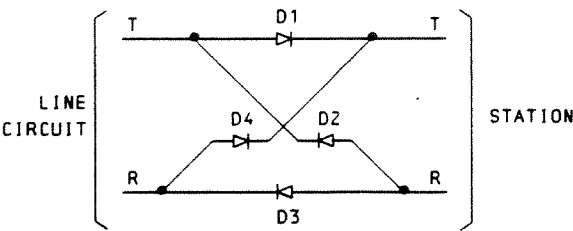

Fig. 2—Schematic of Polarity Guard Circuit
2.03 The purpose of the polarity guard circuit is to isolate the associated station from battery reversals on the T and R line leads (Fig. 2). Normally, ground is on the input T lead and battery on the input R lead, and current flows through diode D1, the station circuit, and D3 in the direction of the diode arrows. A battery reversal would place ground on the input R lead and battery on